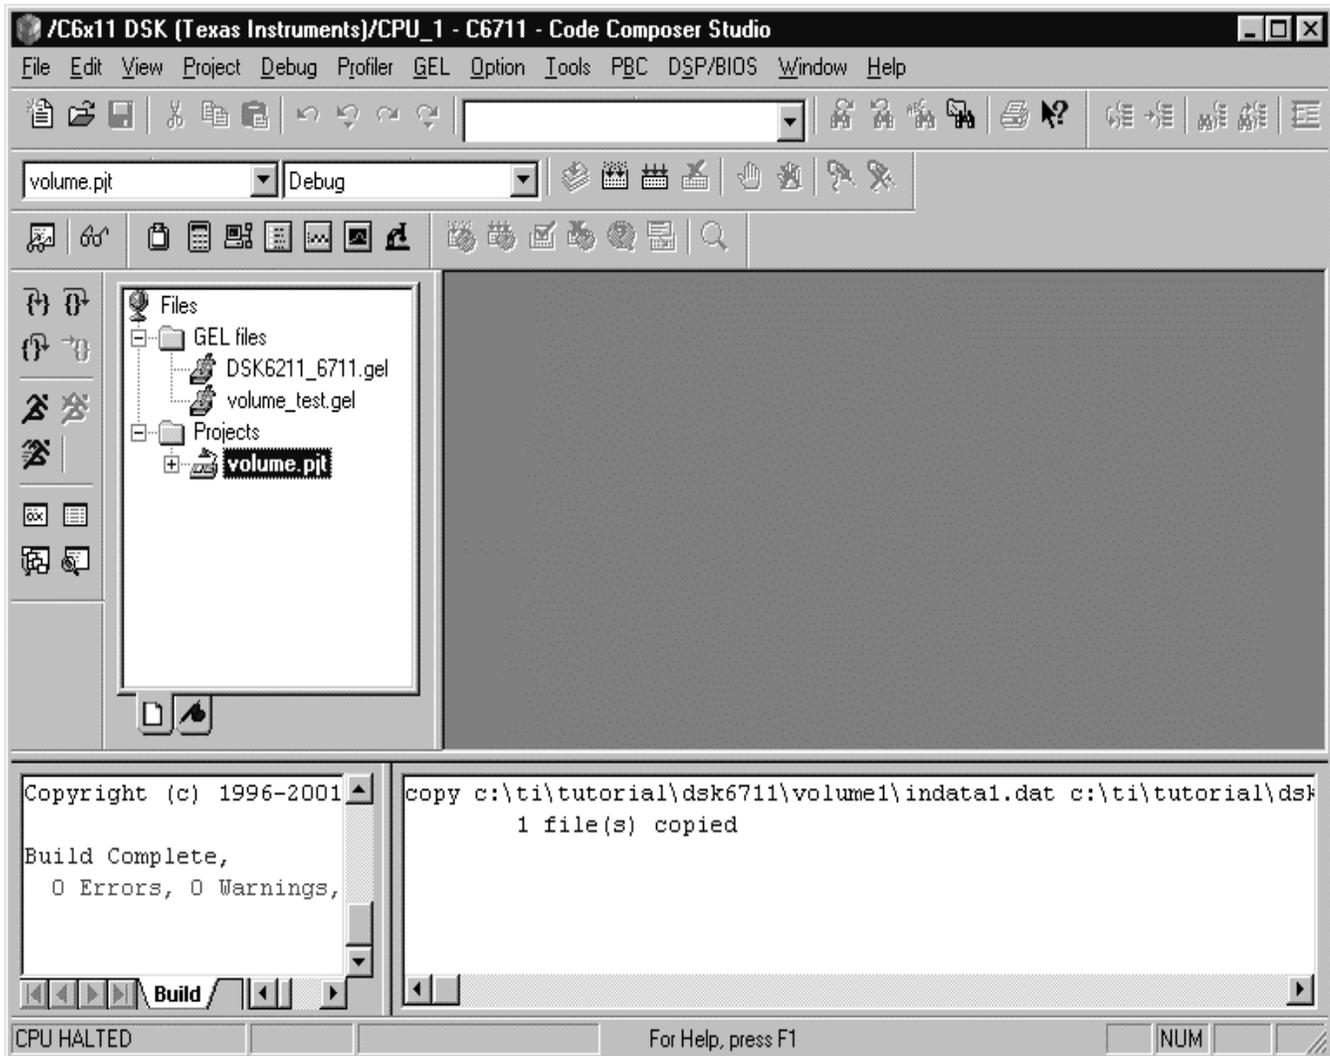

Figure 1. Startup View Using Board GEL File
8. In the CCStudio Setup, go to File ⇒ Exit. A dialog box appears asking "Save changes to system configuration?". Click Yes. Another dialog box appears asking "Start Code Composer Studio on exit?". Click Yes. This launches CCStudio with the GEL file called at startup. Notice the features and verify the functionality of the automation. The volume project and GEL file are loaded. Your screen should look similar to Figure 1.